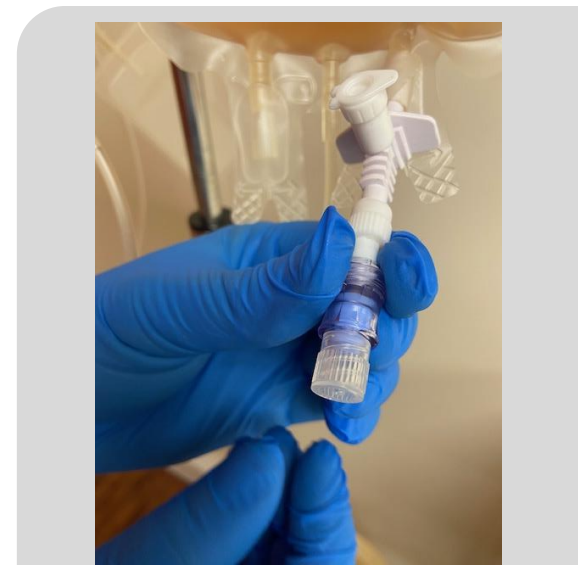

Fig. 16
- Remove a new 60ml syringe from the packet taking care not to touch the luer and remove the cap from the needle free valve attached to the blood component unit (Fig.16) and carefully place the cap in the sterile packing.